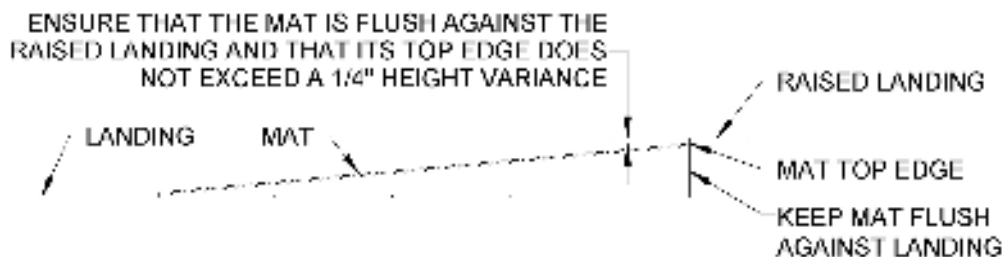

FIG. 1
- 4.2 Ensure that the mat is flush against the raised landing and that its top edge does not exceed a $\frac{1}{4}$ " height variance (FIG. 1).